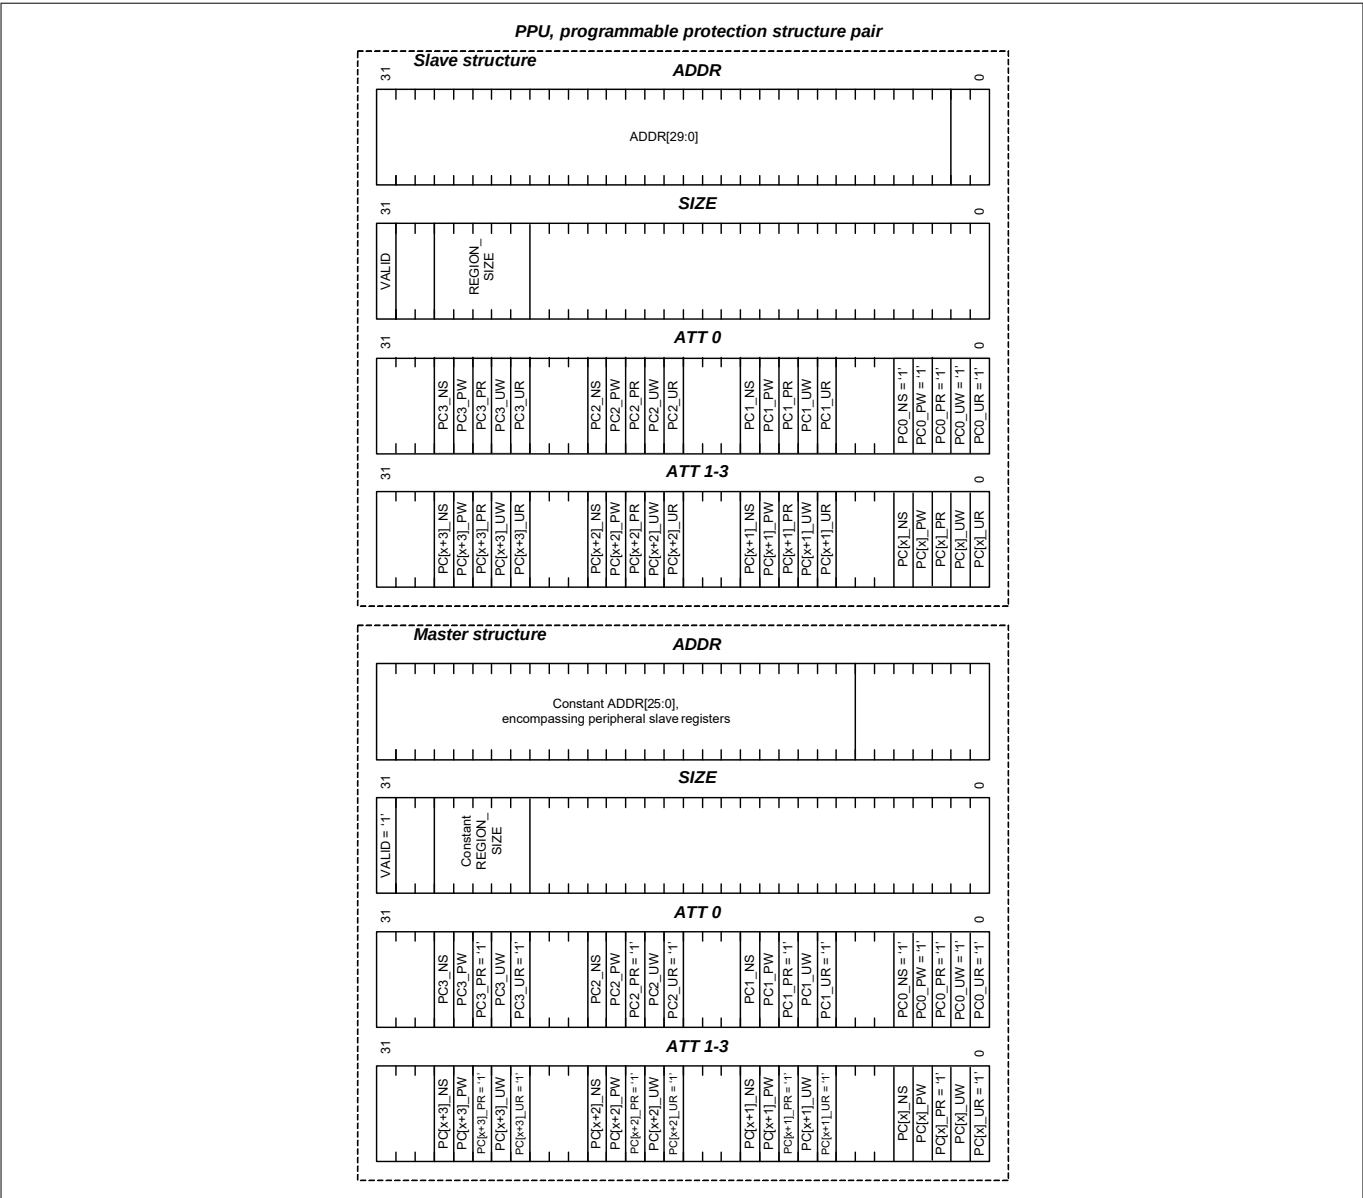
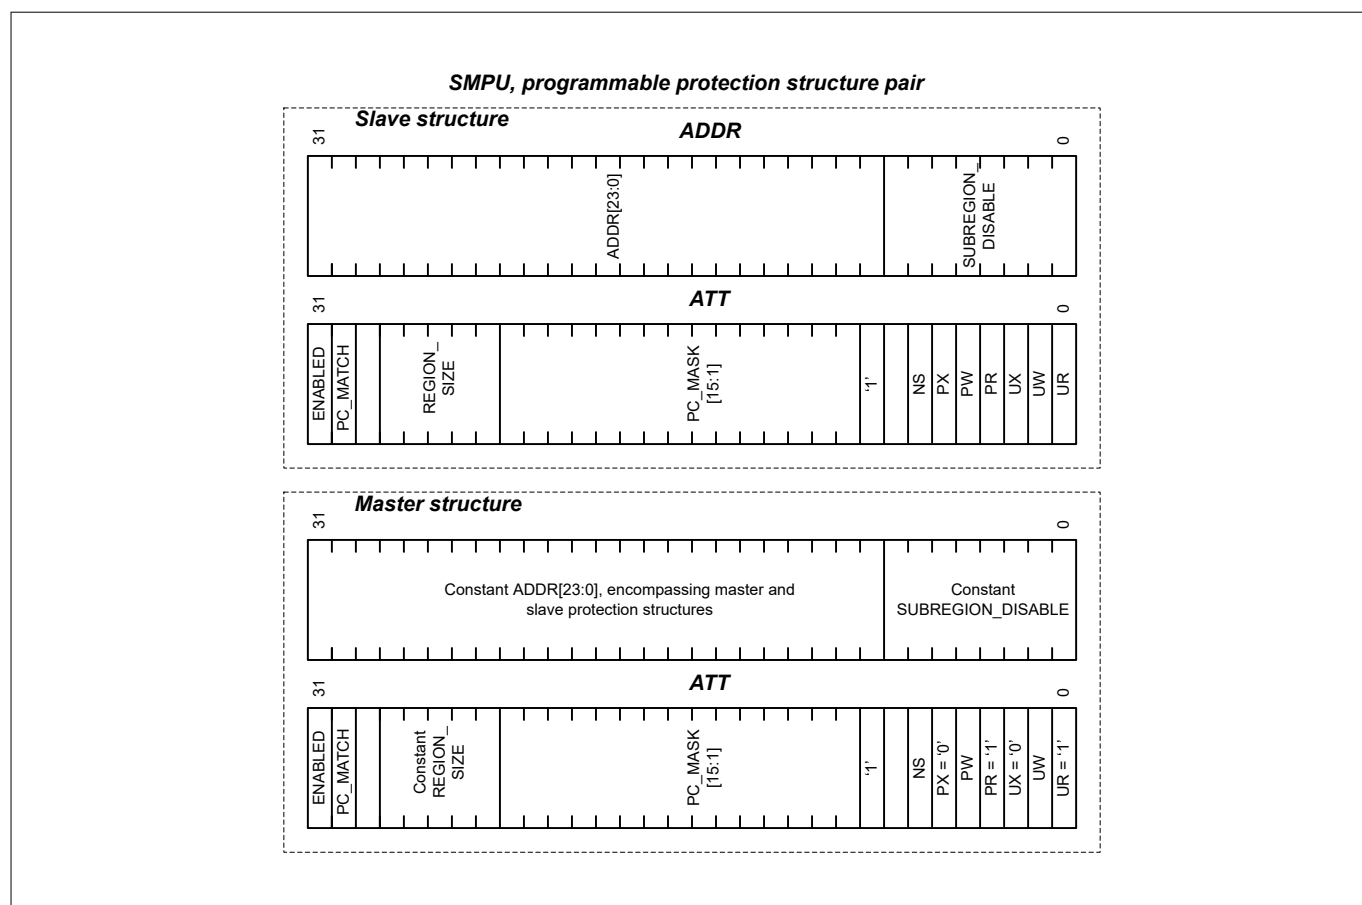

Figure 15 PPU programmable protection structure pair
Figure 16 SMPU programmable protection structure pair
- Programmable protection structure pairs – These structures are used by the PPU and SMPU. The master structure has a fixed, constant address region. The slave structure has a programmable address region. The SMPU master structure has the ATT.UX and ATT.PX attributes as constant '0' (execution is never allowed) and the ATT.UR and ATT.PR attributes as constant '1' (reading is always allowed). The Both PPU structures do not have ATT.UX and ATT.PX attributes. In addition, PC0 is permitted with all access attributes (PC0 has unrestricted access). The PPU master structure has the ATT.UR and ATT.PR attributes as constant '1' (reading is always allowed). See Figure 15 and Figure 16